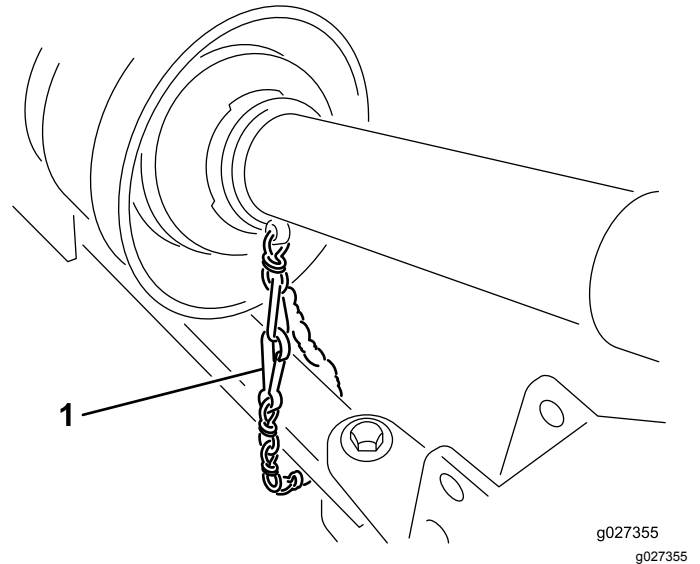

Figure 7
5. Connect the shield safety chain to the traction unit (Figure 7).